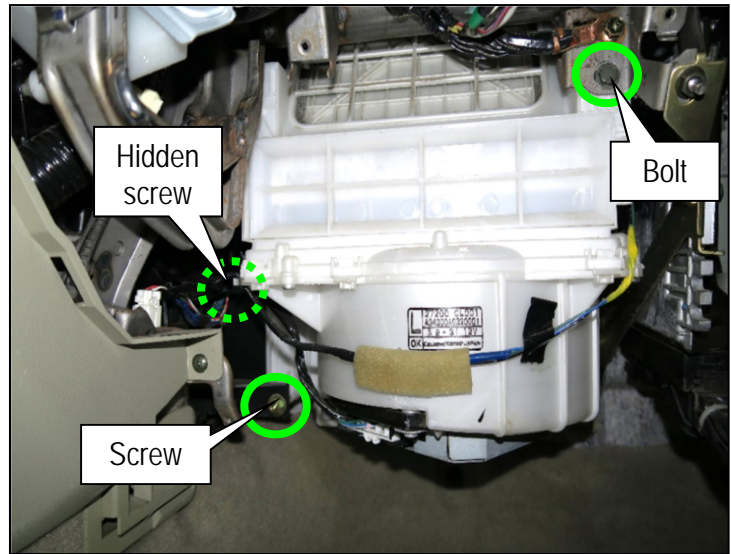

Figure 11
14. Remove the two (2) screws from the LH side of the blower case and one (1) bolt from the RH side of the blower case (Figure 11).
HINT: The top LH blower case screw is not visible in Figure 11.